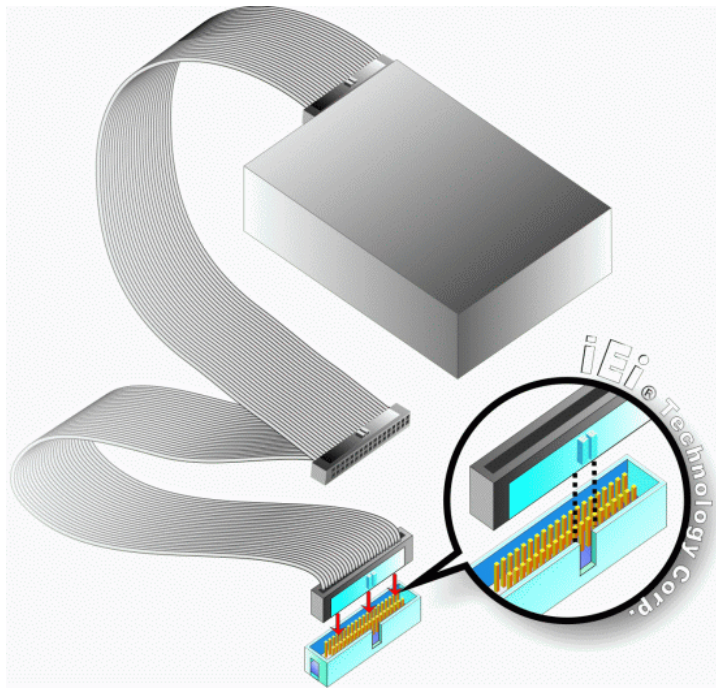

Figure 5-9: IDE Cable Connection
- Step 2: Insert the connector.** Connect the IDE cable connector to the onboard connector. See **Figure 5-9**. A key on the front of the cable connector ensures it can only be inserted in one direction.